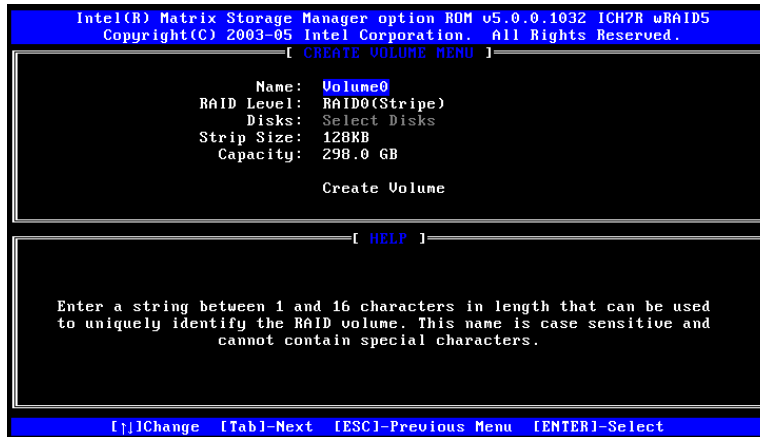

Figure F-2: Create RAID Volume Name
Step 2: **Name the RAID volume.** Enter a name for the RAID volume, or press **ENTER** to accept the default volume name. Upper and lower case alphabetic, numeric, space, and underscore characters are all applicable for naming an array. See **Figure F-2.**